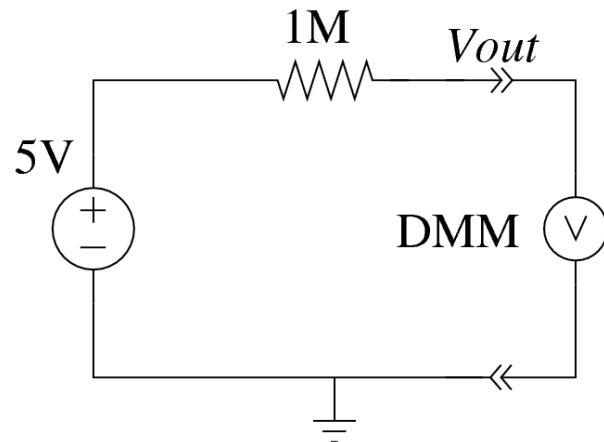

Figure 1
In the lab one day, you set out to confirm that V_{out} in Figure 1 is really 5V. It certainly should be, you reason, since there is an open circuit at the interface and therefore no current flows through (nor voltage drops across) the $1\text{M}\Omega$ resistor. You carefully wire up the circuit and, with a digital multimeter (DMM) configured to measure voltage, you measure a somewhat lower voltage! What happened? The problem is one of "loading." This happens to some degree in all measurements—adding test equipment to the circuit necessarily changes the circuit under test. In previous lab exercises this has probably gone unnoticed because the effect is usually small. This lab examines why this occurs and how an op amp can be used to minimize the problem.
2b) can be modeled as an ideal voltmeter in parallel with a resistor, R_m . If $R_m = 5\text{M}\Omega$, what would the DMM report for the output voltage of the circuit in Figure 1?
- a. Use the results of c & d to predict the voltage that you will measure by hooking the voltmeter directly to the test circuit, as in Figure 1. Now make the measurement and record your result.
- b. Construct the buffered voltmeter circuit in Figure 3. Configure the power supplies to provide $\pm V_{CC}$ of $\pm 15V$ to power the LM741 op amp. Refer to Fig. 1 in Lab 7 as a guide. Ensure that the 5V supply shares a common ground with the $\pm 15V$ supply.